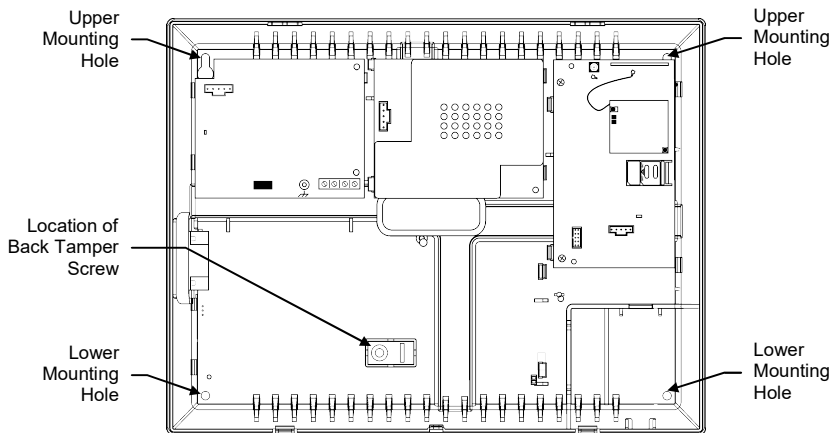

Figure 2.5: Back Cover (Main Board and Battery Pack removed)
3. Remove the backup battery pack. If you want to install the control system with back tamper, it is also necessary to disconnect the flat cable connecting the Main board to the front panel keypad and remove the Main board. Figure 2.5 shows the control system with the Main board and the battery pack removed.